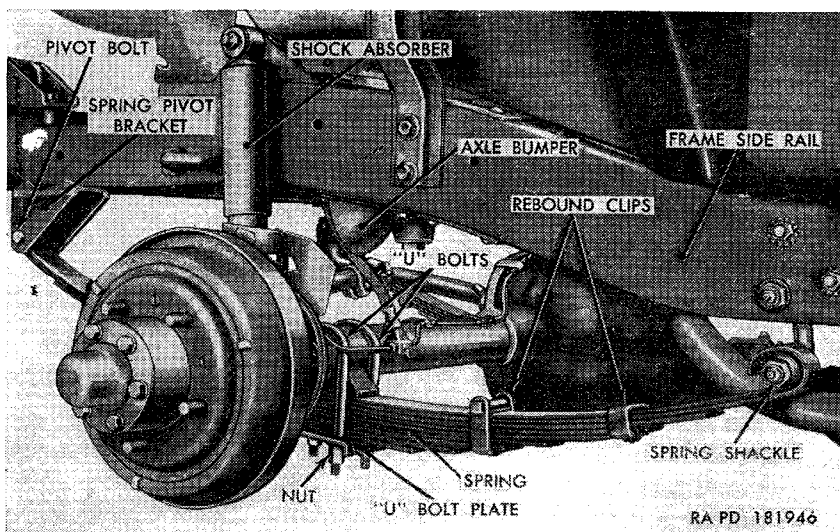
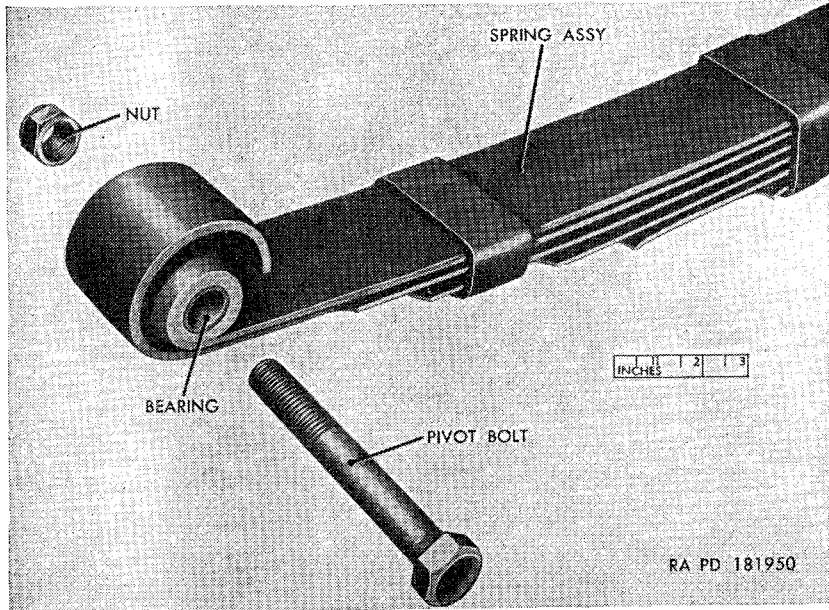

Figure 164. Front spring assembly and shock absorber—installed—wheel removed.
Figure 168. Pivot bolt end of spring—exploded view pivot bolt and nut removed.
a. Description. Both the front and rear spring assemblies (figs. 164 and 165) are of the semielliptic-type with wrapped eyes on the two top leaves. The front spring is a 12 leaf spring and the rear spring is a 13 leaf spring. One center bolt and six rebound clips secure the spring leaves of each spring assembly. Each spring assembly is suspended lengthwise from the frame by a shackle at the rear and a pivot bolt at the front. The pivot bolts ride in bushing-type eye bearings while the shackles are mounted in internally and externally threaded bushing-type shackle bearings. U-Bolts secure each spring assembly to its respective axle. Four hydraulic, double-action shock absorbers are used to control the spring action when flexing. The shock absorbers, mounted to the frame and U-bolt plates, are nonadjustable and nonrefillable.
- (1) Slip a grease seal retainer and a grease seal over each of the shackle threads, with the cupped side of the retainers toward the shackle ends.
- (2) Insert the shackle ends into the inner side of the spring assembly and the inner side of the frame side rail (for front spring) (fig. 164) or spring shackle bracket (for rear spring) (fig. 165) and push the shackle in until the ends are almost protruding from the spring eye and frame side rail or spring bracket.
- (1) Slip a grease seal retainer and a grease seal in the order named over each of the shackle threaded parts. Start the small inside diameter of the retainers on the shackle.
- (2) Insert the shackle ends into the inner side of the spring assembly and the inner side of the frame side rail (for front spring (fig. 164)) or the spring bracket (for the rear spring (fig. 165)) and push the shackle in until the ends are almost protruding from the spring eye and frame side rail or spring bracket.
- (3) Insert the bushing-type shackle bearings into the spring eye and frame side rail or bracket and start the bearings onto the shackle before the bearings start threading into the eye or frame side rail or spring bracket. Take up on both bearings equally until they are tight. Back off the lower bearing about one thirty-second inch (one-third of a turn).
- (4) Place a grease seal over the hex head of each bearing. Slide the side plate over the shackle ends and secure with two nuts. Install the lubrication fittings in the shackle end.
- (5) Raise the axle assembly with the jack until the upper end of the link between the U-bolt plate and the stabilizer bar enters the hole in the bar end. Install a grommet and a cup washer over the link end. Secure the link grommet and washer to the bar with a nut and cotter pin.
- (2) Raise the vehicle frame until both tires clear the ground. Using safety stands or suitable blocking, support the vehicle weight. Place a jack under the axle housing and adjust the jack height, as necessary, to take the tension off the spring.
- (3) Unscrew the safety nut (fig. 168) from the pivot bolt. Withdraw the bolt from the spring pivot bracket and the bushing-type eye bearing in the spring eye. It may be necessary to drive the bolt out of the eye bearing with a suitable drift pin.
- (1) Adjust the jack height beneath the axle housing, as necessary, to aline the hole in the bushing-type eye bearing in the spring eye with the holes in the spring pivot bracket (figs. 164 and 165). Insert the 7/16 x 3 pivot bolt (fig. 168) through
- (1) Remove the spring shackle (par. 242a).
- (2) Remove the pivot bolt (par. 244a(3)).
- (3) While supporting the spring assembly, remove the four **U**-bolt nuts (figs. 164 and 165) and lockwashers securing the two **U**-bolts to the **U**-bolt plate and remove the plate from beneath the spring. Lift the **U**-bolts off the axle housing. Remove the spring assembly from beneath the vehicle.